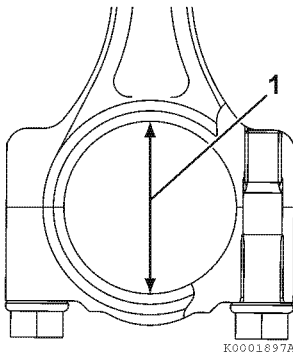

Figure 6-56
2. Inspect the bearing insert for separation or damage (**Figure 6-56**).
4. Measure the inside diameter (1, **Figure 6-56**). Record the measurement. Compare the measurement with crankshaft rod journal outside diameter to calculate oil clearance. See *Crankshaft* on page 6-7 and *Piston* on page 6-9 for specifications.